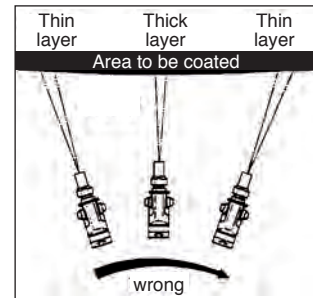

Fig. 38: Do not wave!
- Ensure even speed and move the spray gun parallel to the area to be coated. Waving the spray gun causes irregular coating (see Fig. 38).